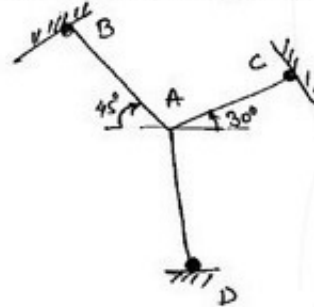

Fig.Q7
- 7 In the pin-jointed truss shown in Fig.Q7, all the bars are cooled up to 30°C . Assume AE for all the members as constant is $100 (10^3) \text{ kN}$ and $\alpha = 12(10^{-6})/^{\circ}\text{C}$ member lengths, $AB = 6\text{m}$, $AC = 3\text{m}$ and $AD = 5\text{m}$. Using force-displacement, determine the member forces.